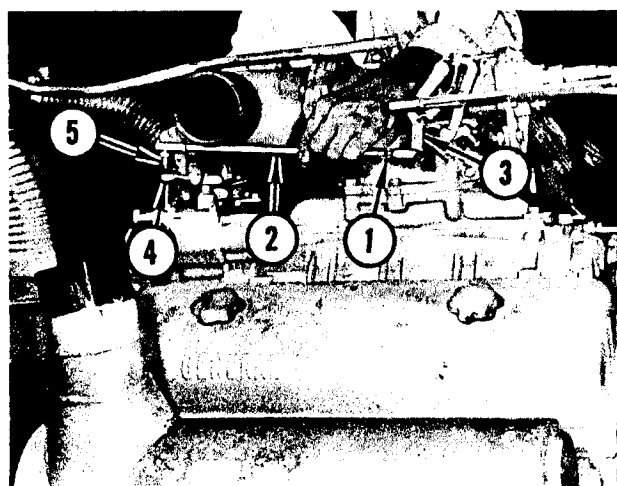

FIGURE 40. THROTTLE ADJUSTMENT
Refer to Figure 40. Loosen locknut (1)